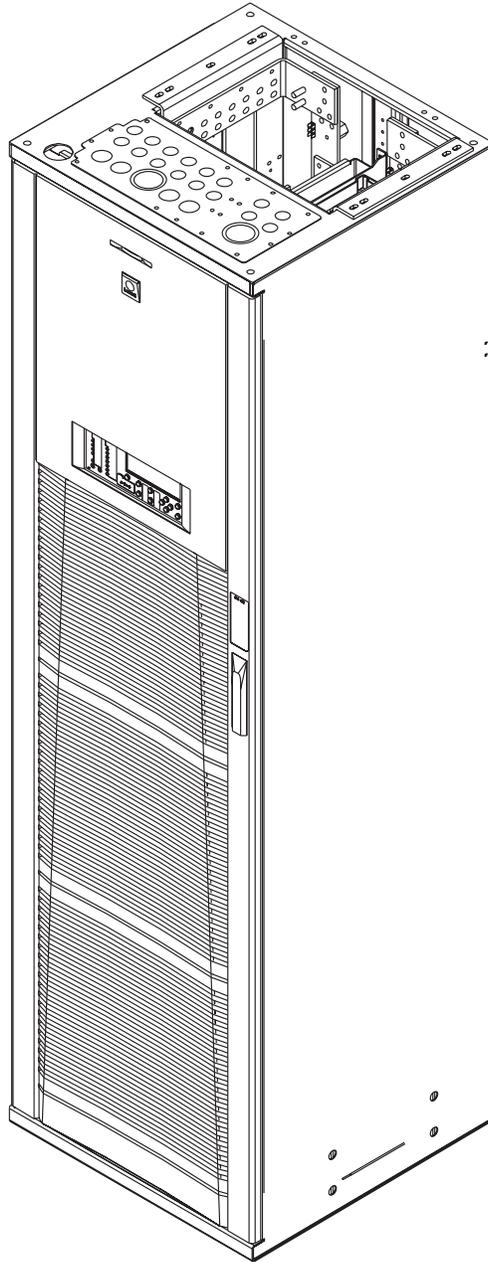

Figure 1-2: GPS 4812/24 Full Height Initial Cabinet
Figure 1-2: GPS 4812/24 Full Height Initial Cabinet	1-3
- The full height (7-foot) cabinet, shown in Figures 1-2 and 2-3, can provide up to 1,600 amperes of dc power.